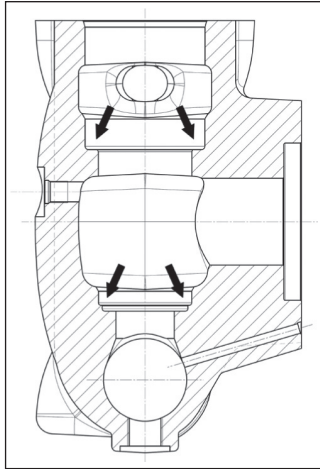

Fig. 98
**Before repositioning the valve units, thoroughly clean and dry the relative housings on the head indicated by the arrows (pos. ①, Fig. 98).**